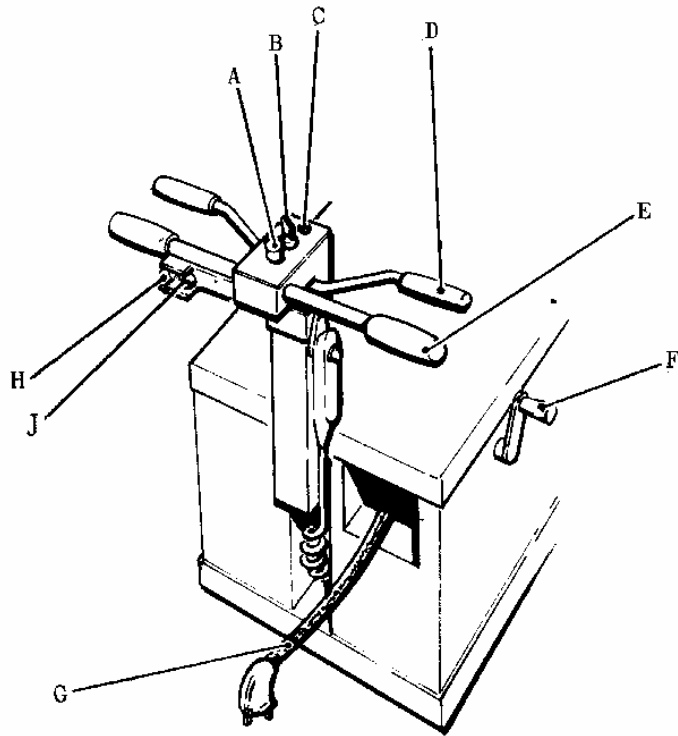

Fig 44 Driving the Motor Driven Model
31. DRIVING the MOTOR DRIVEN MODEL Fig 44